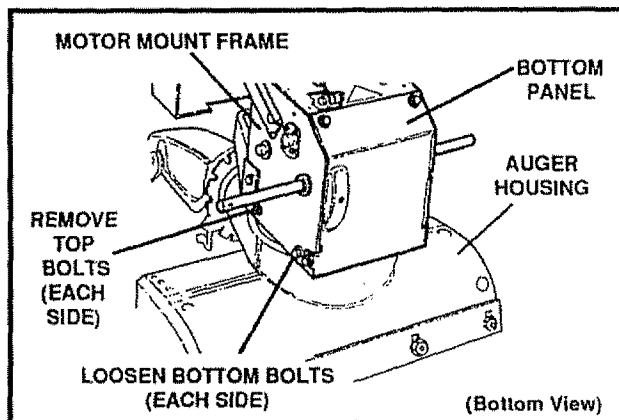
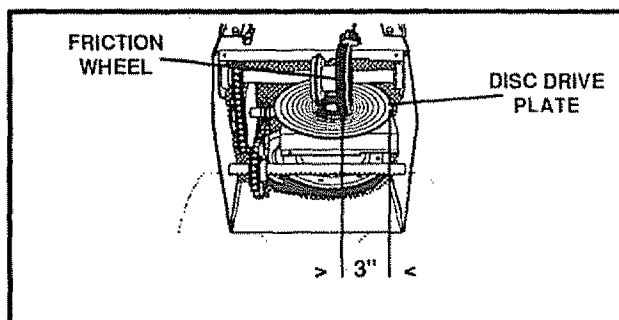

FIG. 30
FIG. 31A
- Remove top two bolts securing auger housing to motor mount frame. Loosen bottom two bolts. (See Fig. 30, page 22).
- Remove the bottom panel (See Fig. 30).
- Position the shifter lever in first (1) gear.
- Note the position of the friction wheel on the disc drive plate. The right outer side of the disc drive plate should be 3 " from the center of the friction wheel (See Fig. 31A).
- Move friction wheel to proper position as indicated in previous step (Fig. 31A).
- Remove the bottom panel (See Fig. 30, page 22).